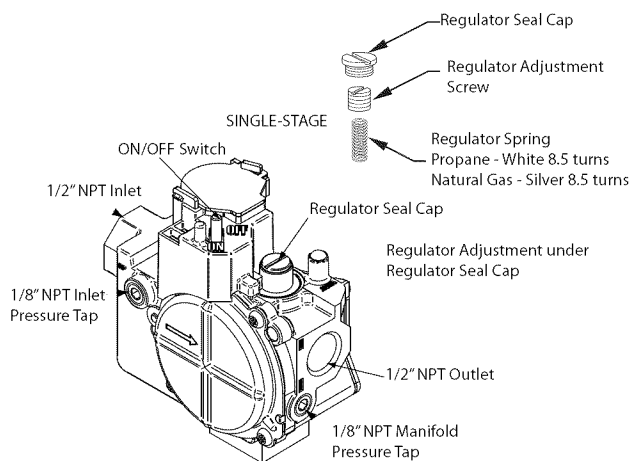

Fig. 27 - Single Stage Gas Valve
1. Refer to Fig. 27.
3. Remove caps that conceal adjustment screws for the gas valve regulators. (See Fig. 27.)
8. Turn the adjusting screw clockwise (in) 8.5 full turns. This will increase the manifold pressure closer to the propane set point. (See Fig. 27.)